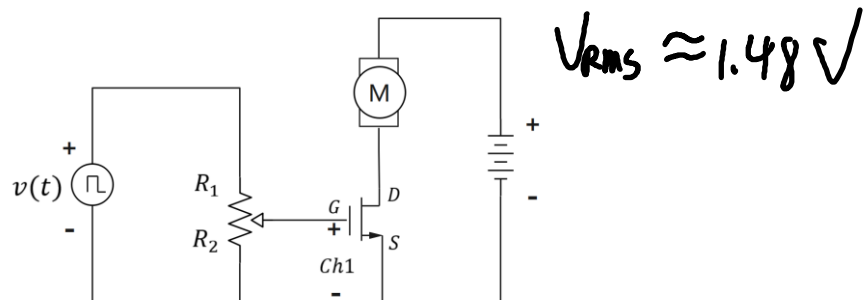

Figure 3: Using the oscilloscope to measure to the gates of the MOSFET
**Question 7:** Use the oscilloscope to measure the RMS voltage at each MOSFET gate ( $V_2$ ). Place the black probes at the **negative** side of the battery and the red probes at the gate of each transistor in turn (Figure 3).